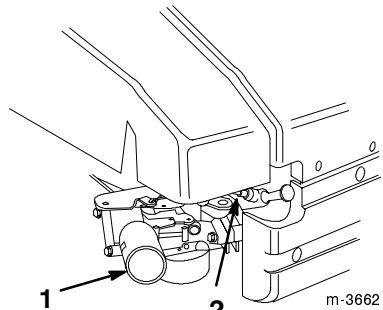

Figure 11
1. Connect the wire to the spark plug (Fig. 11).
3. Cover the hole in the center of the primer (Fig. 11) with your thumb and push it in three times, waiting two seconds between each push.